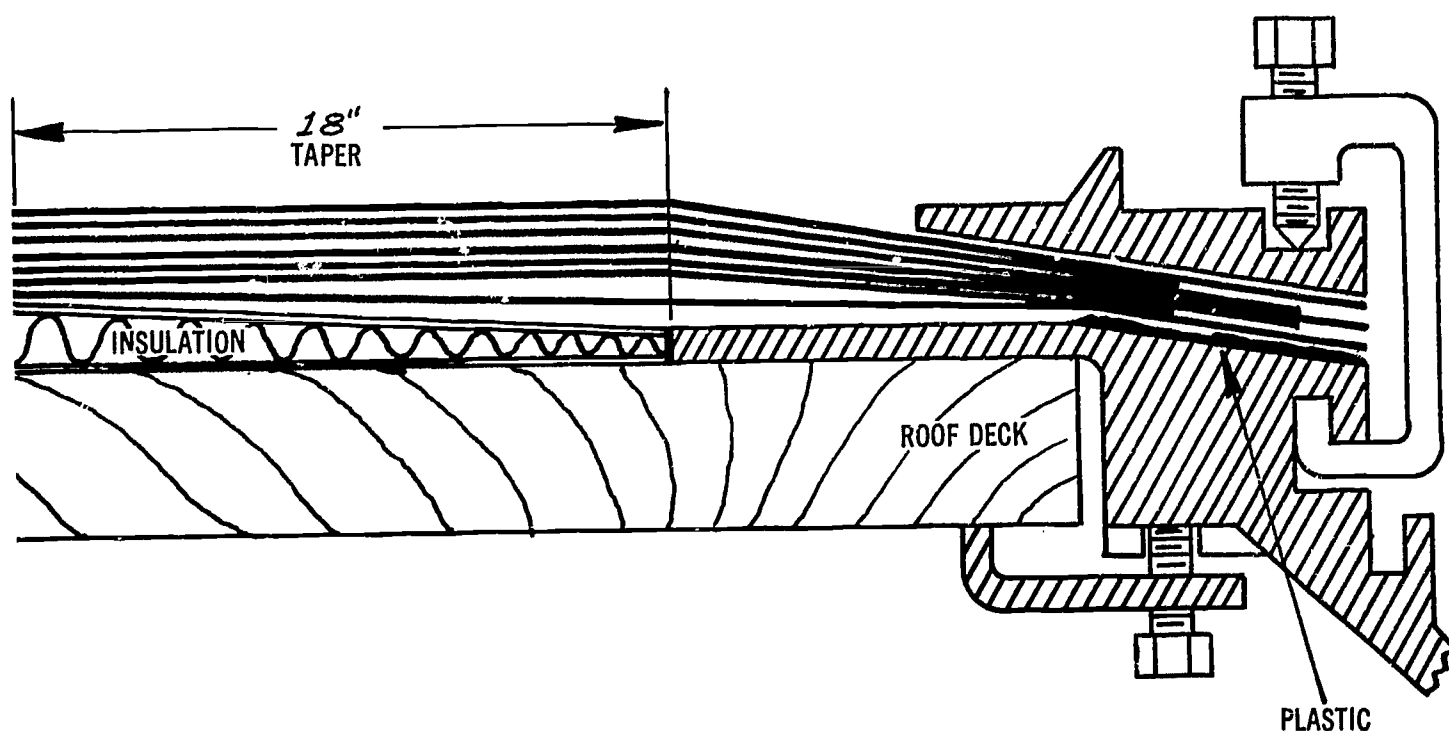

Fig. A-24. Construction of a ring drain
- Taper the insulation back at least 18 in. all around the opening to allow the drain to be set slightly below the deck level (Fig. A-24).